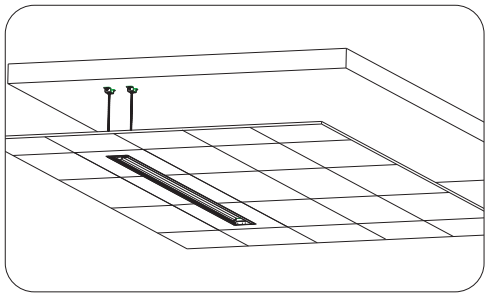

Figure18
8. Insert the external infrared receiver to EXT IR hole (figure 18), because of the recessed mount, the external infrared receiver must be ready for control, then install the power box back to bracket (note: ensure the power box is buttoned on the hanger of bracket) (figure 19).
- 2) Insert the control system signal line to corresponding output (figure 11), and take out the signal line from control system signal line exit (figure 18).